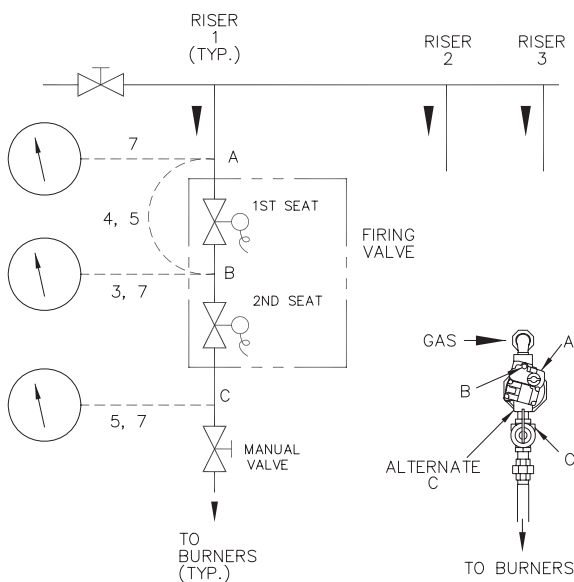

Fig. 41: Leak Test
Refer to Fig. 41. The numbers on the diagram refer to the steps below:
6. Perform leakage test on gas valves. (See Fig. 41.)